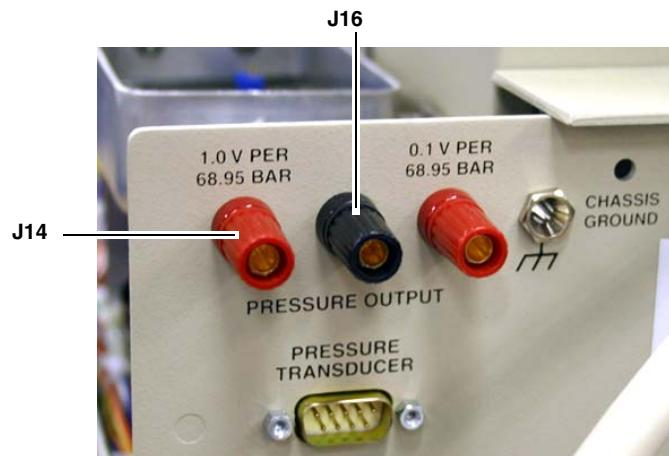

Figure 5-9 Pressure output jacks, pump rear panel
4. Connect the voltmeter to **J14** (left red banana plug on the pump rear panel, Figure 5-9), and **J16** (black center banana plug).